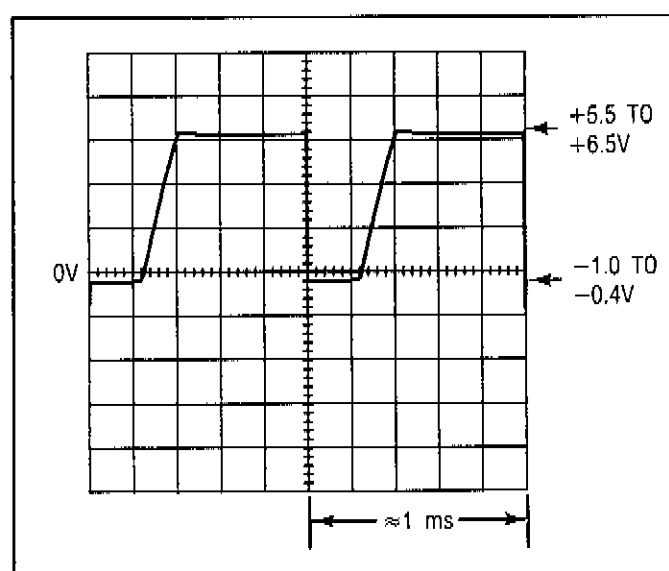

Figure 8C-6. Waveform at A5TP3, **J1** Step 5
6. Connect the oscilloscope to pin 13 of U8C. The waveform should be as shown in Figure 8C-7.